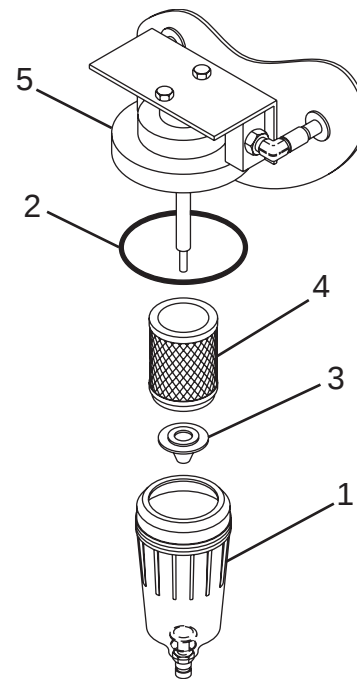

Figure 111
2. Remove (unscrew) the bowl assembly (Figure 111, Item 1) and O-ring (Figure 111, Item 2).
3. Remove the retainer (Figure 111, Item 3) and filter element (Figure 111, Item 4) from the head (Figure 111, Item 5).
4. Install a new filter element (Figure 111, Item 4) and retainer (Figure 111, Item 3).
5. Clean the bowl assembly (Figure 111, Item 1) using warm, soapy water.
6. Inspect the O-ring (Figure 111, Item 2). Replace if damaged.
7. Install the O-ring (Figure 111, Item 2) and bowl assembly (Figure 111, Item 1) on the filter head (Figure 111, Item 5).